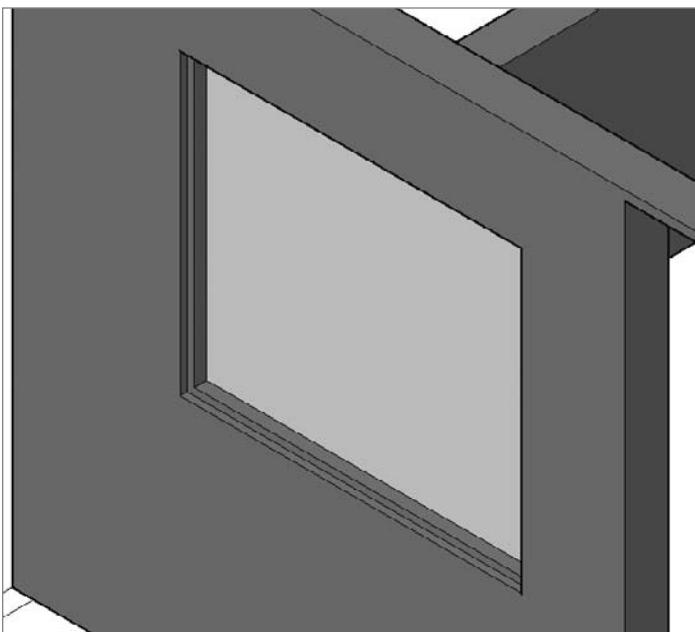

FIGURE 16.33 The completed kitchen window
14. Use the Extrude tool to extrude the glazing 0.25" (6 mm). If you have trouble selecting the 3D Polyline, enter **L.** to use the Last option at the Select Objects: prompt. Your kitchen window should look like Figure 16.33.